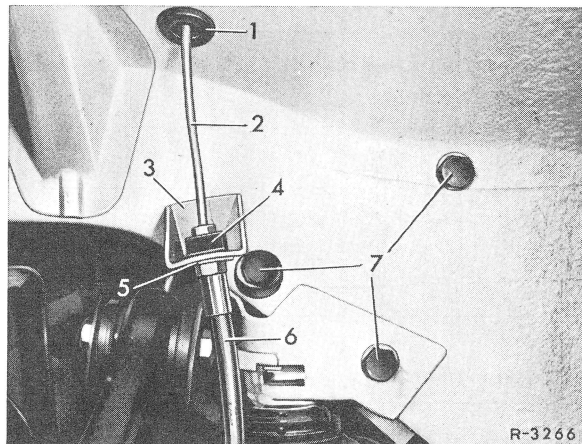

Fig. 3
**8** Unscrew locking screws (7) for attaching steering to side member of frame floor. Then remove steering in downward direction (Fig. 3).